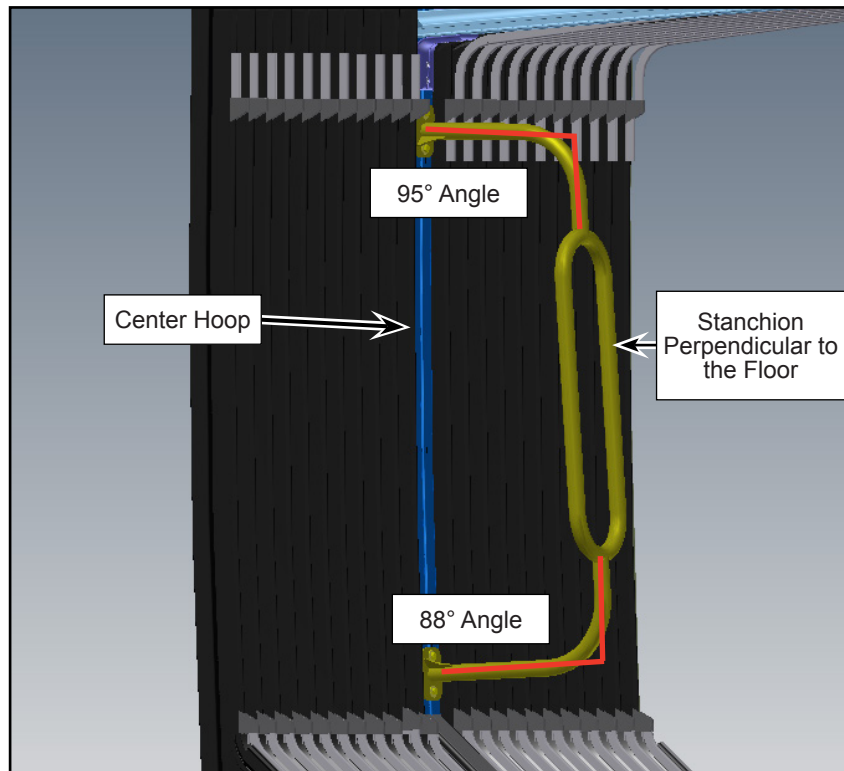

Figure 7 - Typical View of Stanchion Orientation
1.10. Ensure that the stanchion on both sides are vertical (perpendicular to the floor) (see Figure 7).